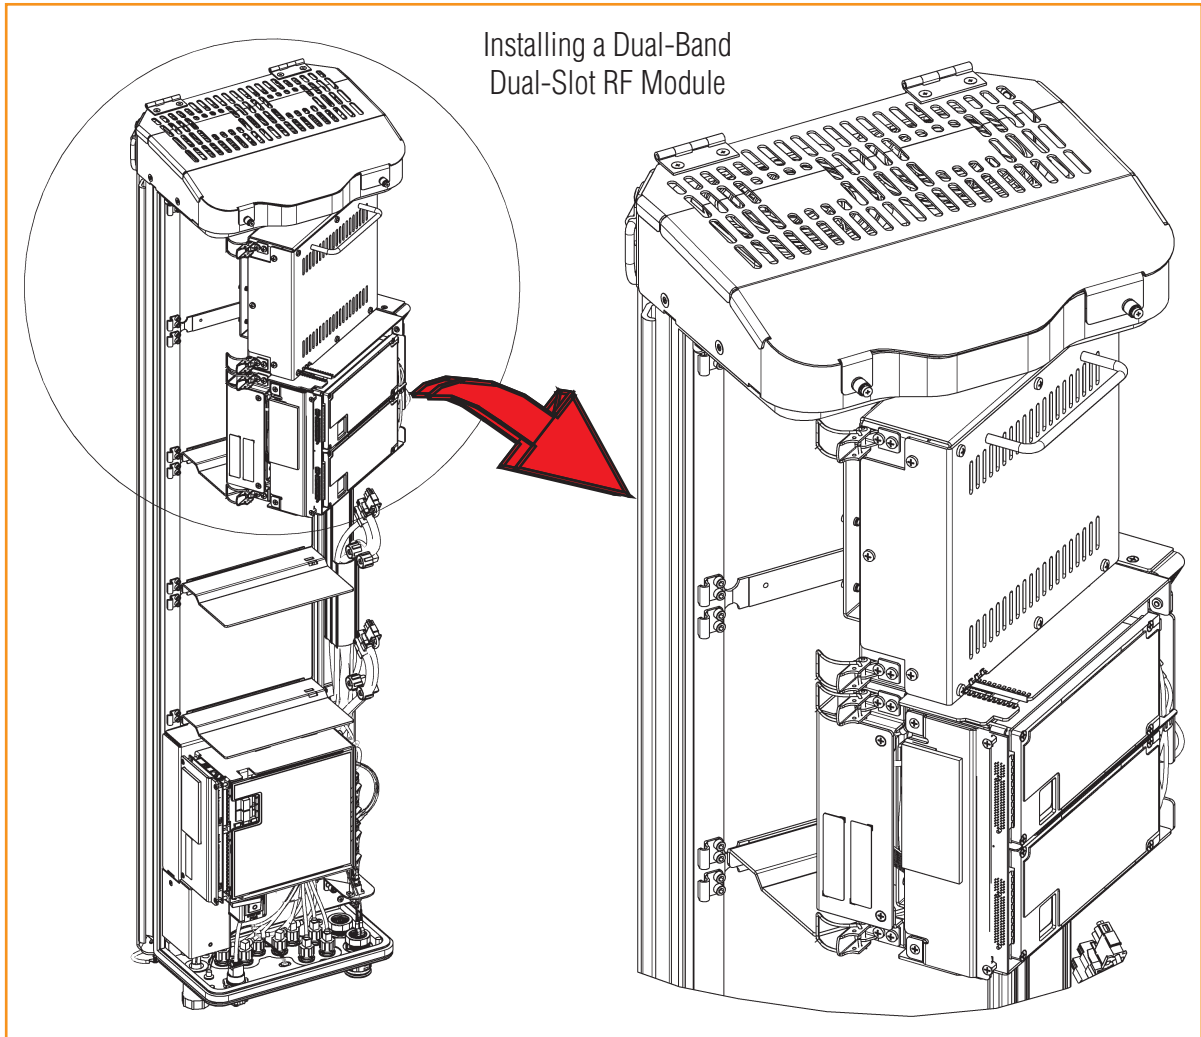

Figure 13. Installing a Dual-Band Dual-Slot RF Module
- Dual-Band Dual-Slot RF Module: Figure 13 on Page 27